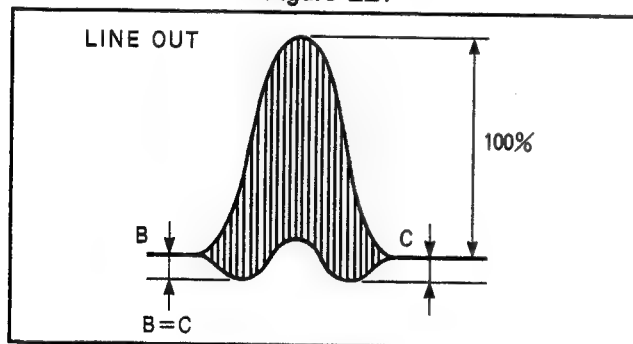

Figure E22
4. Adjust VR3301 so that the waveform becomes as shown in Figure E22.